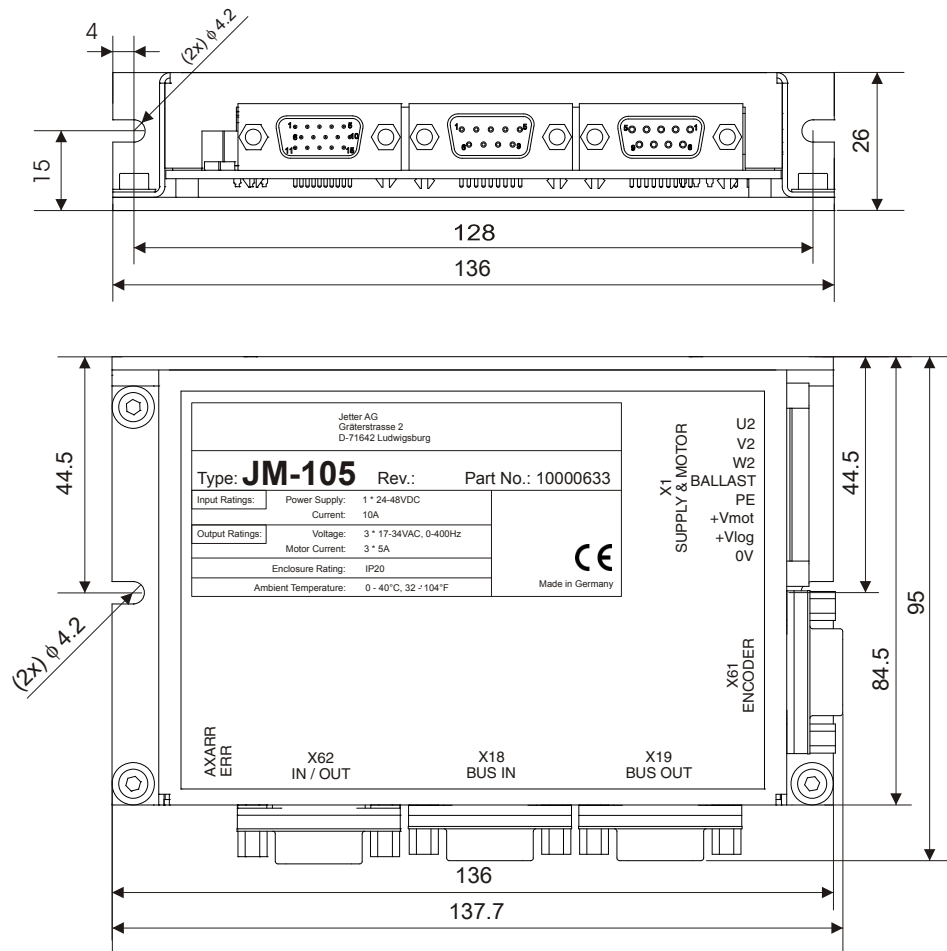

Fig. 4: Mounting holes in the enclosure
-  The JetMove 105 has been designed for natural convection. Mount the JetMove in horizontal orientation (label on top) or vertical orientation (motor line below). In both cases, make sure there is a clearance of 25 mm between the JetMove and adjacent devices (see Fig. 4, page 22).
-  Mark on the panel two positions for the fastening screw threads of the JetMove 105 (see Fig. 4, page 22).